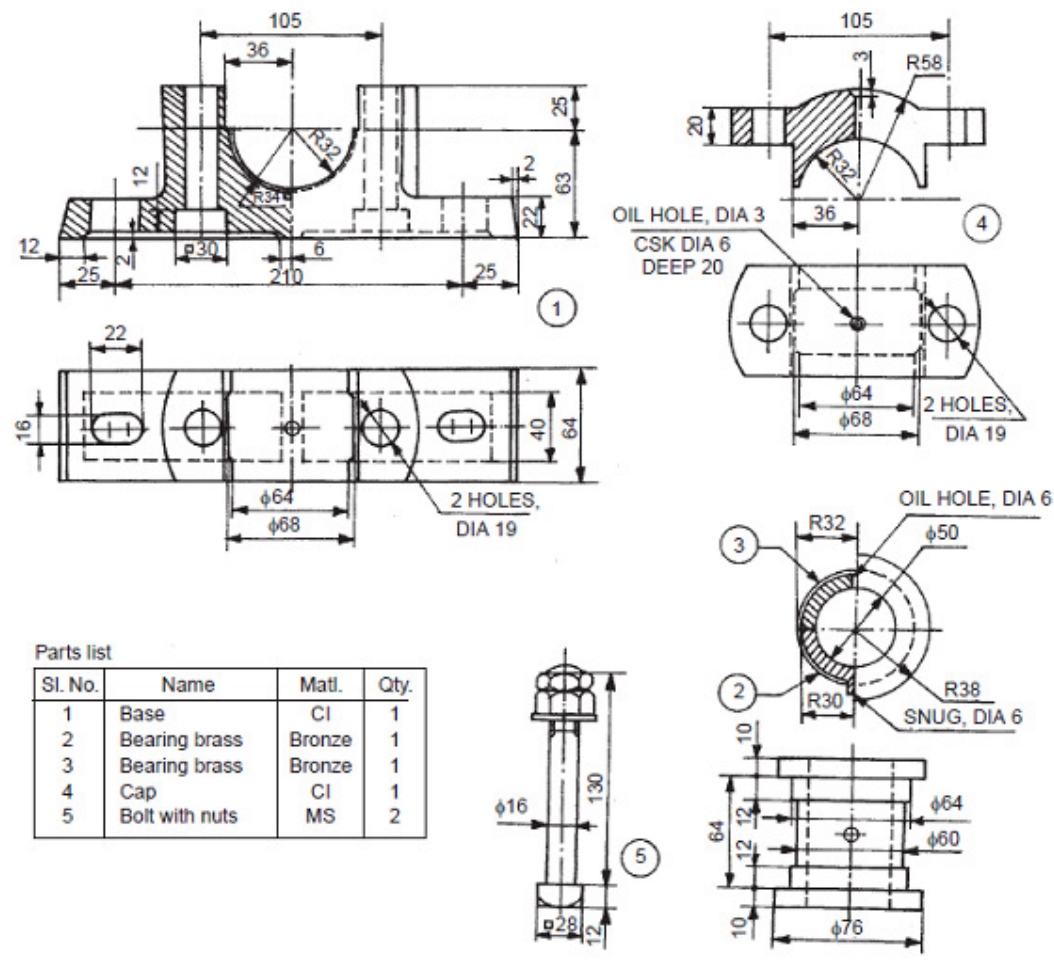

Figure.1
4. Assemble the parts of the plummer block, shown in Figure. 1 and draw the following views: